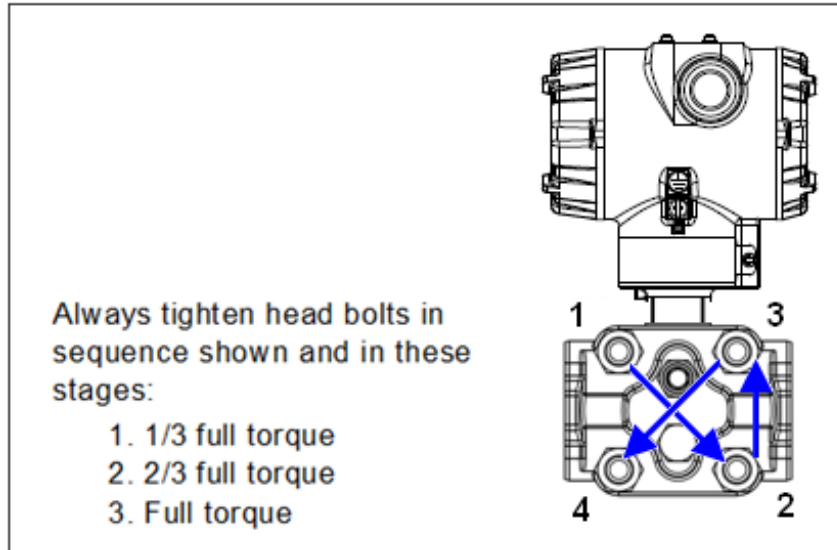

Figure 62 – ST 700 Basic Transmitter - Head Bolt Tightening Sequence
16. Loosen the nuts in the sequence shown in Figure 62
24. Using a torque wrench, gradually tighten the nuts in the sequence shown in Figure 62